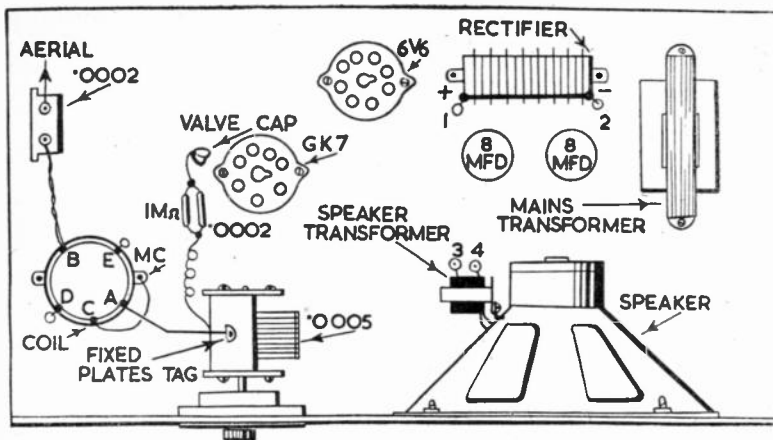

Fig. 2—Plan of the component layout
These holes should be bevelled out a little each side to allow free play for the oars to work. A steel furniture bracket is screwed each side, in the angles between bar and rowlocks, as at (E) in Fig. 2, as some strain comes here when the exerciser is in use. The oars (F) in Fig. 4, are lengths of broomstick or ash, if the latter is obtainable. To one end